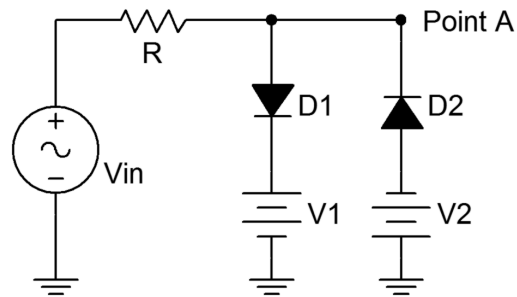

Figure 1
1. Consider the circuit of Figure 1 using $V_{in} = 5$ volts peak at 1 kHz, $R = 10\text{ k}\Omega$, and both $V1$ and $V2$ set to 0 volts. For any positive signal over approximately 0.7 volts, $D1$ will turn on and limit the output voltage at Point A to 0.7 volts. A similar situation occurs with $D2$ and negative signals. A sine wave input over several volts will be clipped at ± 0.7 volts resulting in a squared off wave.
2. Build the circuit of Figure 1 using $R = 10\text{ k}\Omega$, and both $V1$ and $V2$ set to 0 volts. Set V_{in} to a 5 volt peak sine at 1 kHz. Place one oscilloscope probe at the input and the second at Point A. Make sure the scope inputs are DC coupled. Record the positive and negative peak values of the resulting output waveform in Table 1. Also save an image of the scope showing both the input and output waveforms.